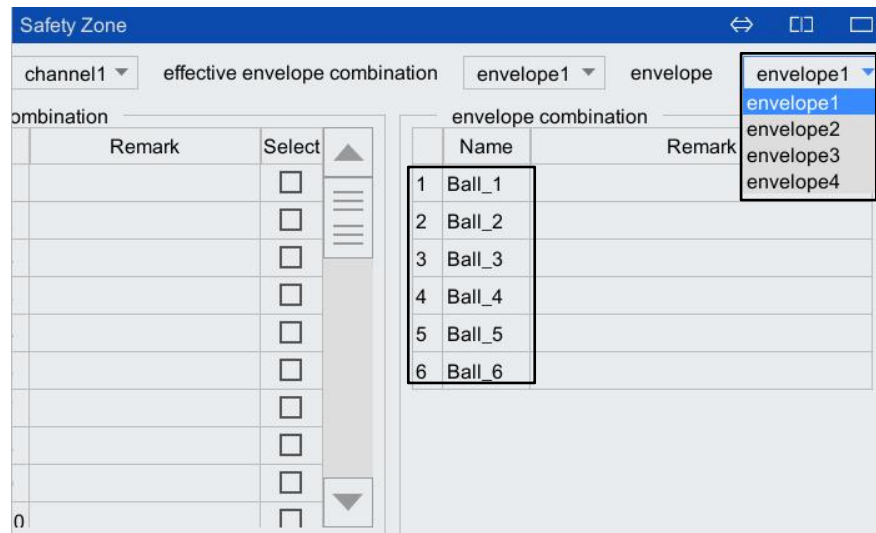
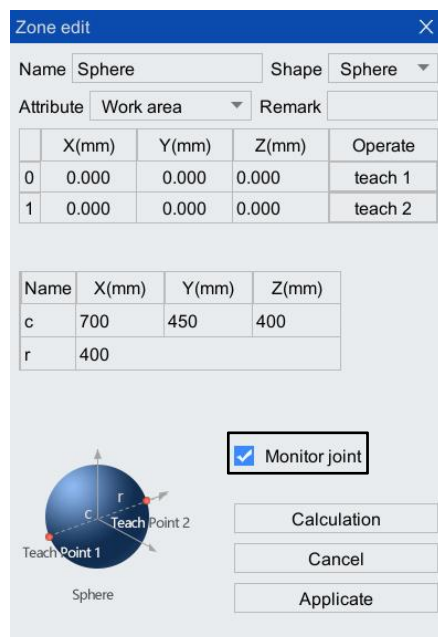

Figure 6-40 [Envelope] drop-down list
Figure 6-46[Monitor Joint] is checked
**Step1.** Click the [Envelope] drop-down list in Figure 6-40. There are 6 sets of envelopes to choose from. Each set of envelopes can set up to 6 envelope balls (Ball), that is, one tool can have up to 6 envelopes. Enveloping the ball, the specific use of several enveloping balls can be customized by the user.
**Step2.** Click the row of any tool ball (Ball) in the [effective envelope combination] box in Figure 6-40 to set the envelope ball in the pop-up [Envelope combination] interface, as shown in Figure 6-41. As shown, the content description in the [Envelope combination] interface refers to Table 6-18.
**Step1.** Click the row of any zone (Zone) in the [Zone Combination] box in Figure 6-40, and the [Zone Edit] interface shown in Figure 6-46 will pop up.
Click the line where any zone in "Zone Combination" is located to pop up "Zone Edit" interface shown in Figure 6-46, and you can configure the related parameters such as the name, shape, attribute, type, size and position of the Safety Zone.